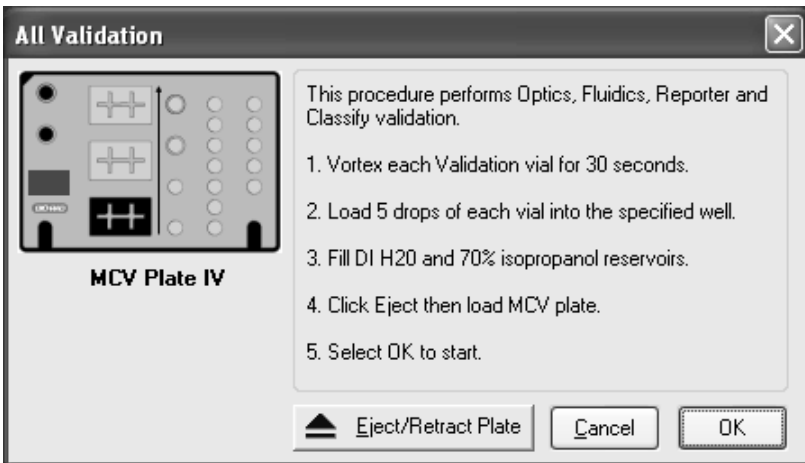
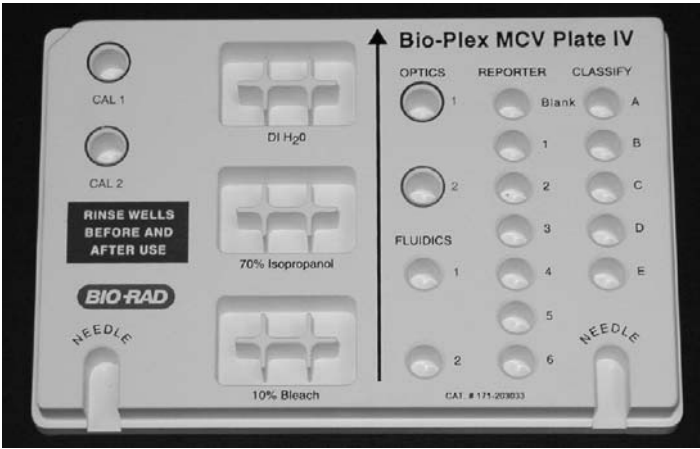

Fig. 1B. All validation dialog.
Fig. 2. MCV plate IV.
6. Enter user name and control number. Select **All**. Select **OK**. The following dialog box will appear (Figure 1B):
- Place 5 drops of each bead into the respective wells on the MCV plate (see Figure 2 below or Figure 1B). Store beads at 4°C as soon as possible after use. Protect the beads from light.